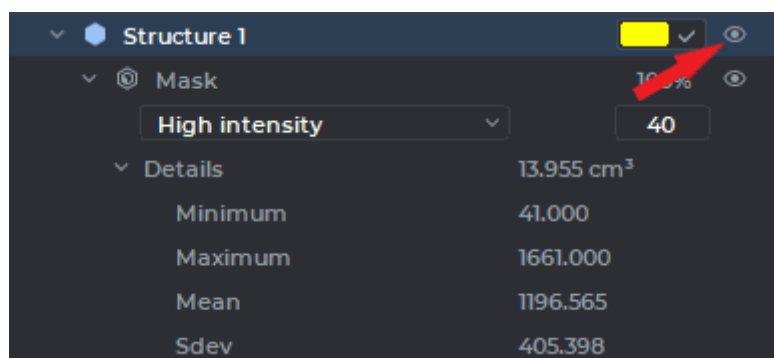

Figure 6.8: Button to change the visibility of mask and structure surface
- Disabling visibility. The visibility button  (Fig. 6.8) turn off visibility of structure mask and surface for this structure. This action is also available for the base volume.